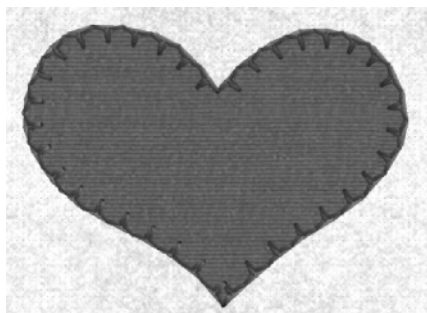

Fig. 21
13. Select from any of the stitches in the *Object Properties* dialog (See Fig. 21). (The sample design uses stitch #94 with a checkmark in *Mirror Style*.)